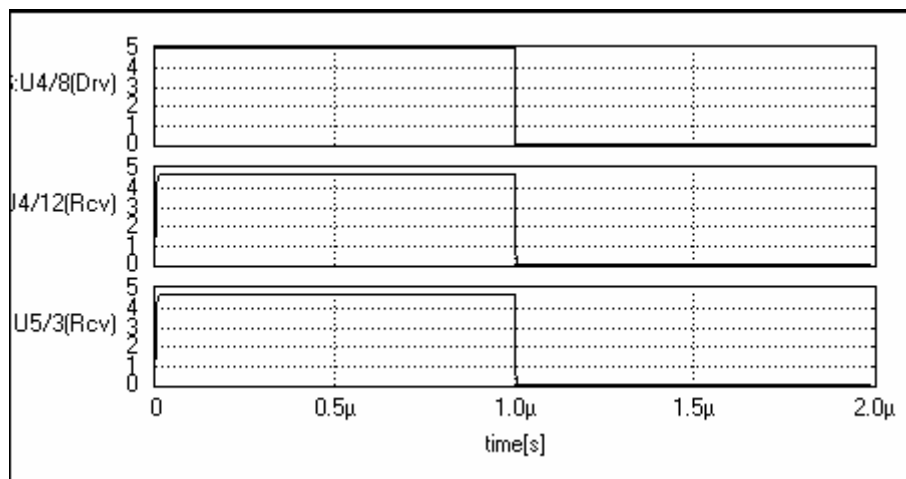

Fig. 9.11
12. The check box '**Generate Waveform**' should be checked. The result is displayed in the waveform viewer. Checking the option 'Display Field' will invoke the Field Analyzer. (See the next section for notes on Field Analyzer). Click the ***SIMULATE*** button to process the simulation. The in for one wavelength and a time step of 1ns gives the following result as shown in Fig.9.11.